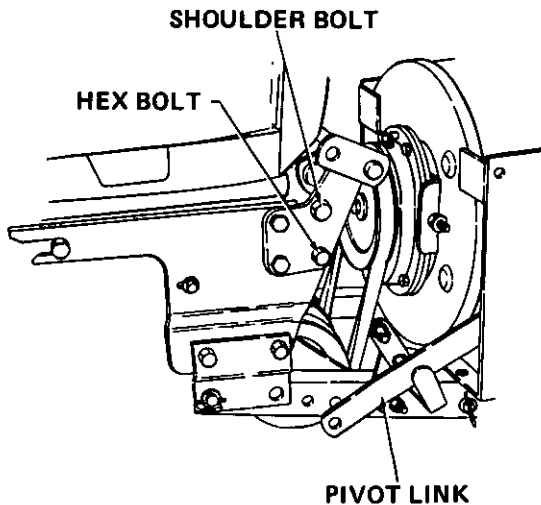

Figure 21
- a. Remove shoulder bolt, lock washer and hex nut from top holes in undercarriage. Refer to Figure 21.